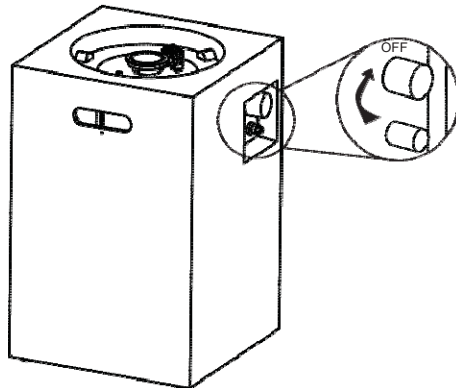

Figure 1
2. Check that the control knob for the gas supply system is turned to the "OFF" position before starting any assembly (see Figure 1).